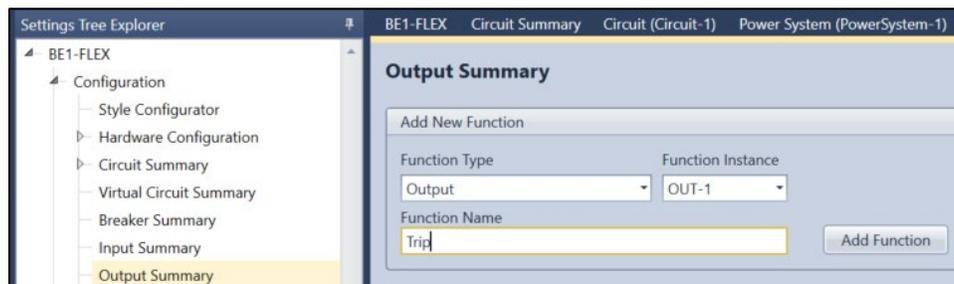

Figure 2-14. Output Summary Screen
Step 9: Select Output Summary from the Configuration branch. Edit Function Name to “Trip”. Select Add Function. Add a second output named “Alarm”. See Figure 2-14.